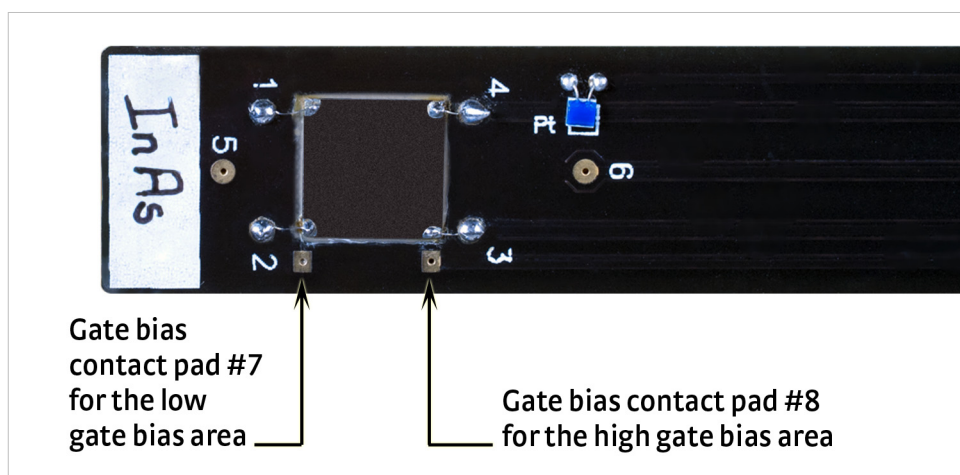

FIGURE 4-13 Solder pad sample card with mounted Van der Pauw sample and leads; also notice the sample name is hand-written in the ID space.
5. Write the sample name in the sample ID space on the front side of the card (FIGURE 4-13).